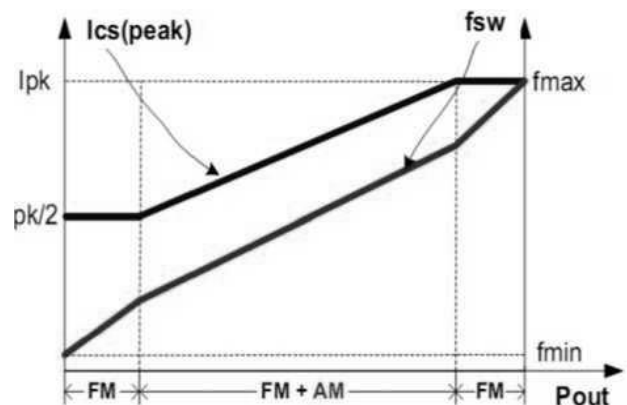

Fig.4
To meet the tight requirement of averaged system efficiency and no load power consumption, a hybrid of frequency modulation (FM) and amplitude modulation (AM) is adopted in U6116 which is shown in Fig 4. Around the full load, the system operates in FM mode. When normal to light load conditions, the IC operates in FM+AM mode to achieve excellent regulation and high efficiency. When the system is near zero loading, the IC operates in FM again for standby power reduction. In this way, the no-load consumption can be less than 70mW.